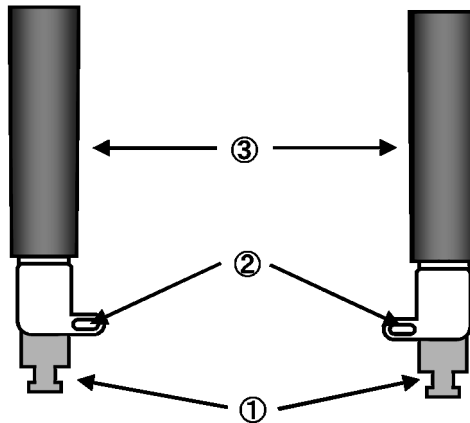

Figure 5-9 Test Head Board Handle
To detach or attach a board from the test head, use the jig provided (shown in Figure 5-9).
- (7) Pull out a PE card by using the dedicated jig shown in Figure 5-9.